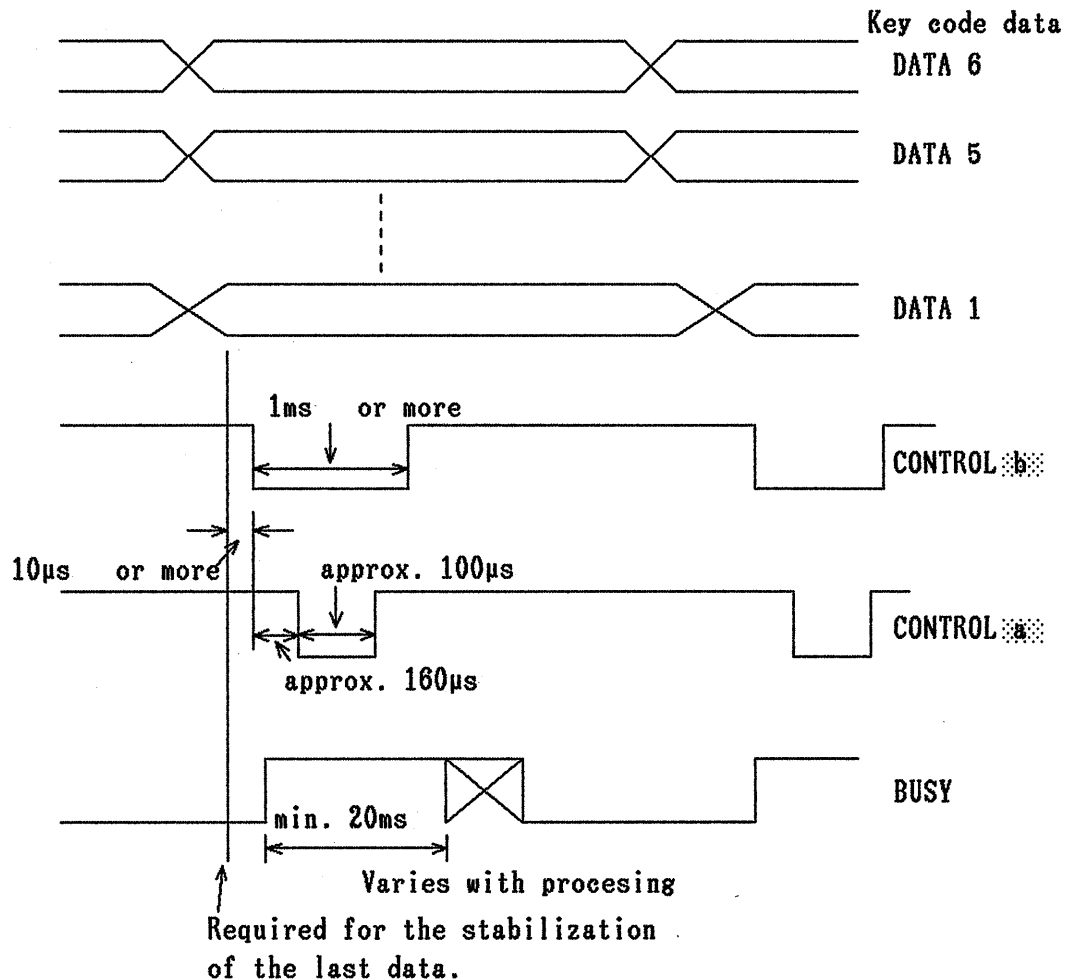

Figure 5-2
Then, set CONTROL **b** to "0" for 1ms or longer as shown in Figure 5-2.
- 2) Send CONTROL  which is set to "0" for 1 ms or longer as shown in Figure 5-2 (input data timing).